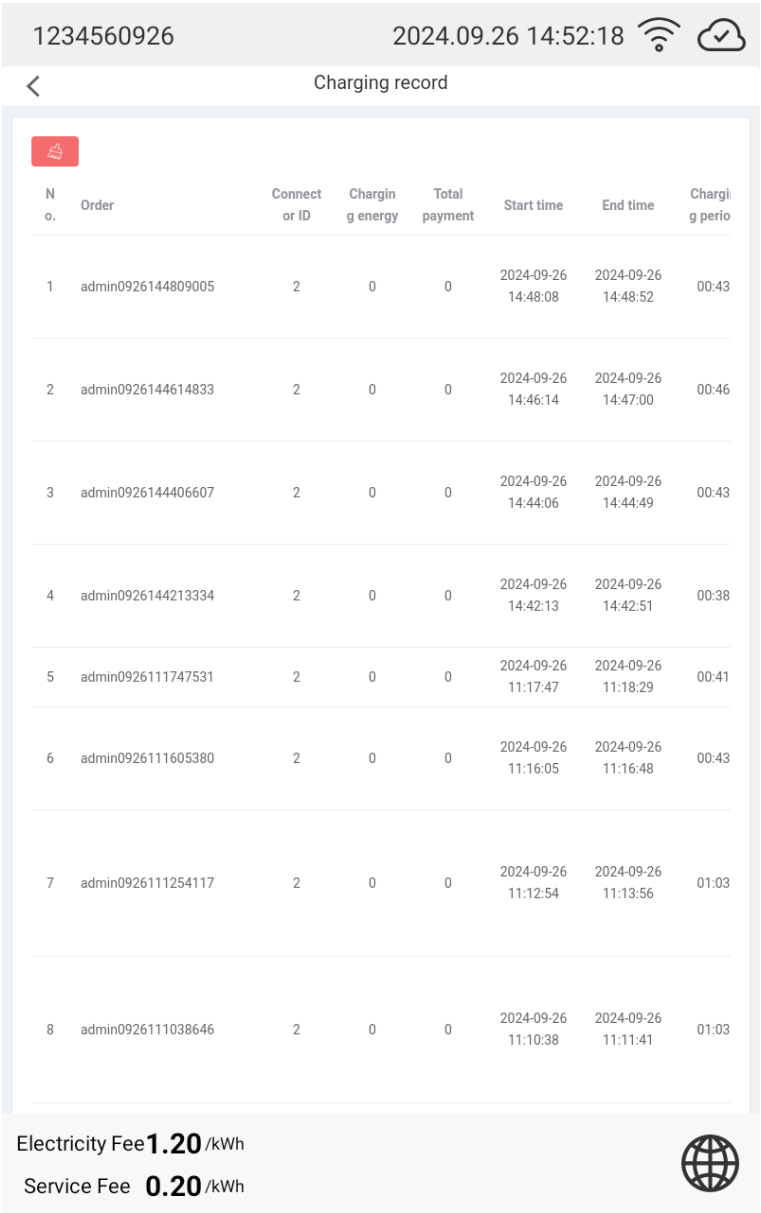

Figure 6-3-7
6) Charging record: Query the charging history Record of charger. As shown in Figure 6-3-7